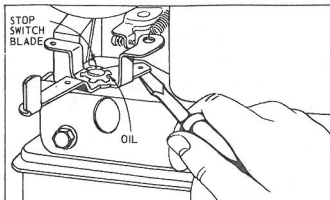

FIG. 2
3. Use a screwdriver to pry up the control lever as shown in Figure 2. Bend the lever just enough to eliminate the friction of the detent.